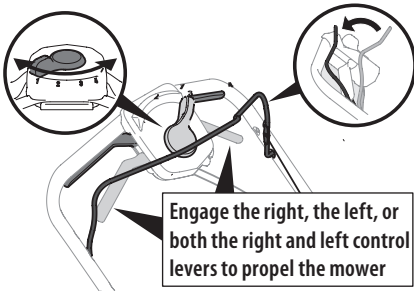

Figure 35
1. Once the engine is running and while continuing to hold the blade control down, squeeze either (or both) drive controls against the upper handle to propel mower (Figure 35).